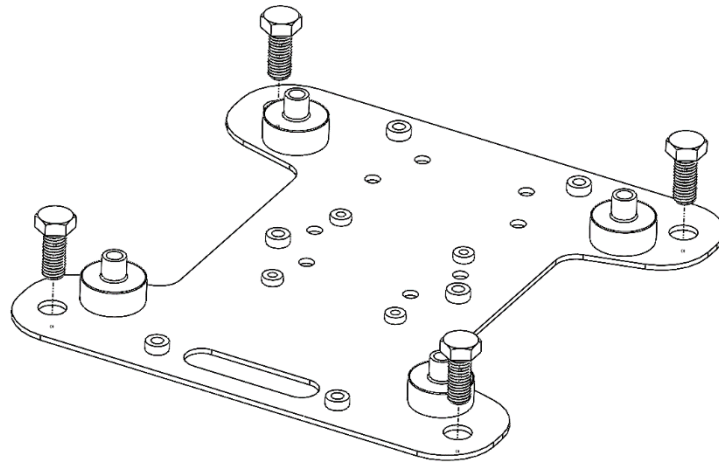

Figure 29: Place Bolts in Adapter
1. With the antenna upside down, take out the screws shown in Figure 29.